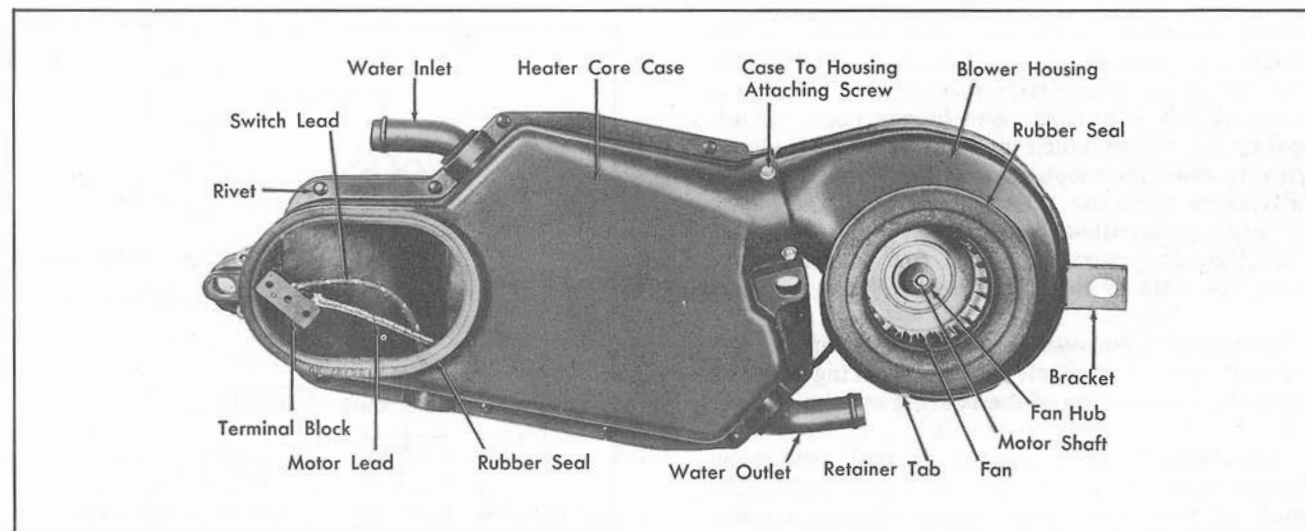

Fig. 14-4 Rear Under Seat Heater, Left Hand
(1) Rear Underseat Heater, Removal and Installation (Right or Left Side)
a. Removal—Refer to Fig. 14-4
(2) Rear Underseat Heater Core, Removal and Installation (Right or Left Side)
(3) Rear Underseat Heater Motor and Blower Fan, Removal and Installation (Left or Right Side)